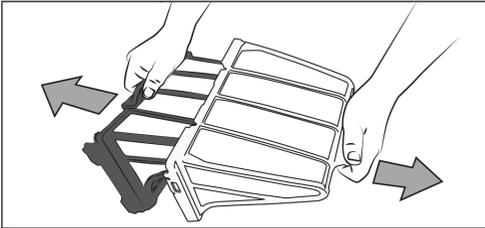

Figure 15. Remove Filter Canister
7. Remove the filter canister. See Figure 15.